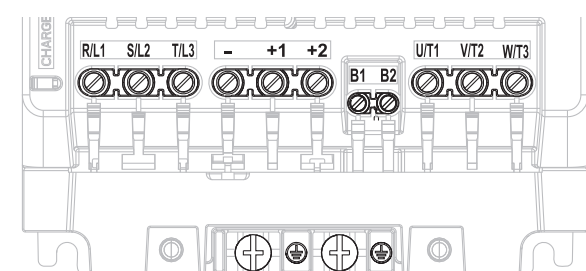

Figure 3 HV305 Main Circuit and Motor Circuit Terminal Layout by Model
- Refer to **Figure 3** for HV305 Main Circuit and Motor Circuit Terminal Layout by Model